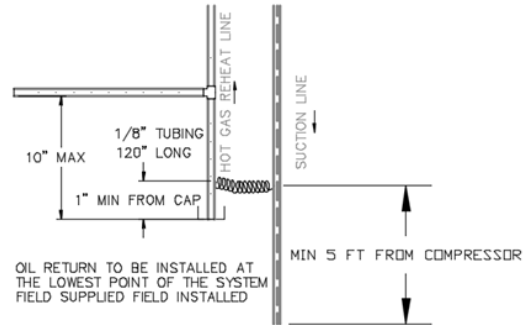

Figure 13: Oil Return Line
25.4 cm (10") long. Install a sight glass in the oil drip line for observation. Run an oil return line, using 3.2 mm (1/8 inch) capillary tube, 3 meters (10 feet) in length, from the hot gas reheat line oil drip line to the suction line. Connect the oil return line below the sight glass and 1 inch above the bottom of the oil drip line. (See Oil Return Line Figure 13)